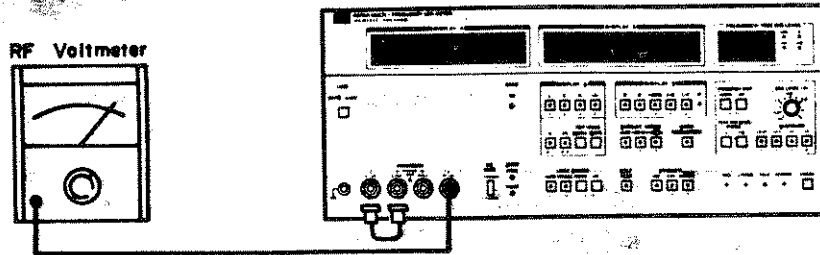

Figure 4-2. Test Signal Level Variable Range Test Setup.
2. Connect BNC to BNC cable to 4274A UNKNOWN H_{CUR} terminal and to RF volt-meter input as shown in Figure 4-2.